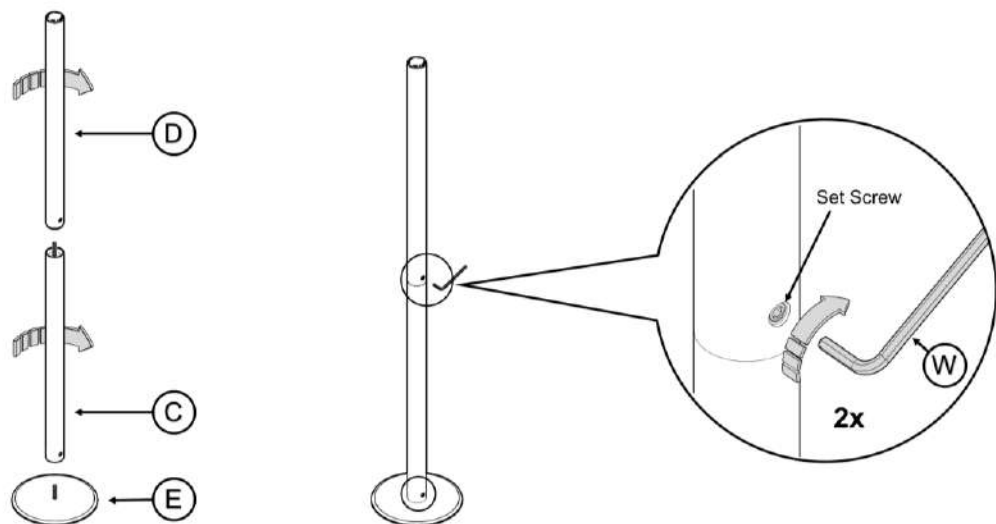

FIGURE 2
2. Assemble items **C, D, E** as shown in *FIGURE 2*. Tighten tubes and base firmly together. Tighten both set screws with **W**.